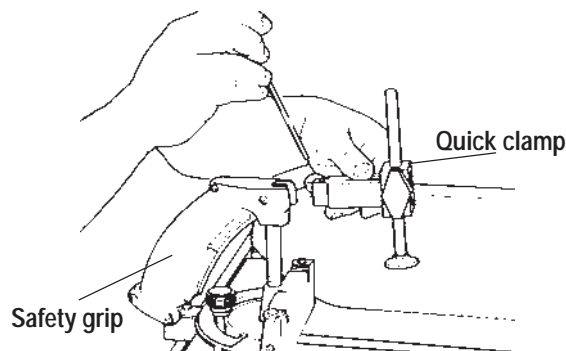

Figure B-126
4. The miter gauge has a special safety grip and quick clamp that helps hold stock securely in the miter gauge. The quick clamp can be adjusted to accommodate any size stock up to 4-1/4" thick simply by loosening the knob and raising or lowering the rod and shoe assembly. If you need to perform an operation where the quick clamp would be in the way, you can remove it by loosening the setscrew at the top, near the back of the arm. See Figure B-126.